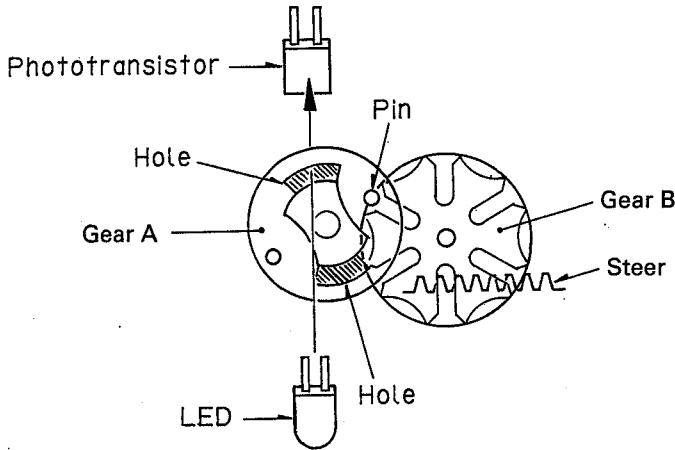

Fig.35
1. The gear B operates intermittently by moving a step when the gear A turns half circle, then stopping at the straight part of the step hole of the steering. The gear A has holes (two places) at this stepping position and the phototransistor detects these holes (Fig. 35).